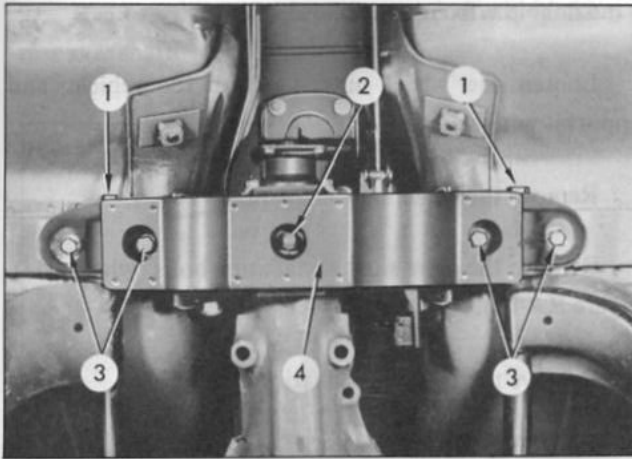

Fig. RA-16 Removing the differential mount front member
6. Loosen the transverse link inner bolts ① (for both front and rear). (Figure RA-16)
7. Remove the differential mount front insulator installation nut ②. (Figure RA-16)